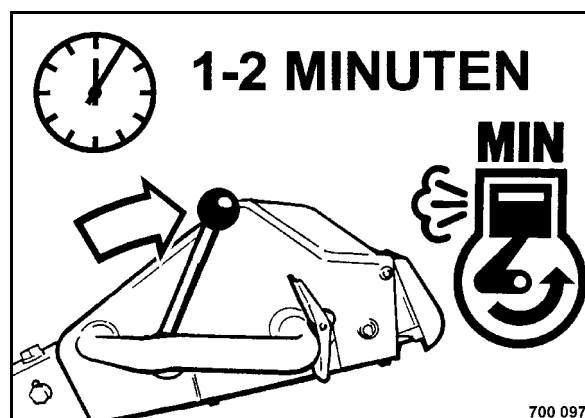

Fig. 38
- Shift the throttle lever to position "MIN" (Fig. 38) and let the engine run with idle speed for a short while.